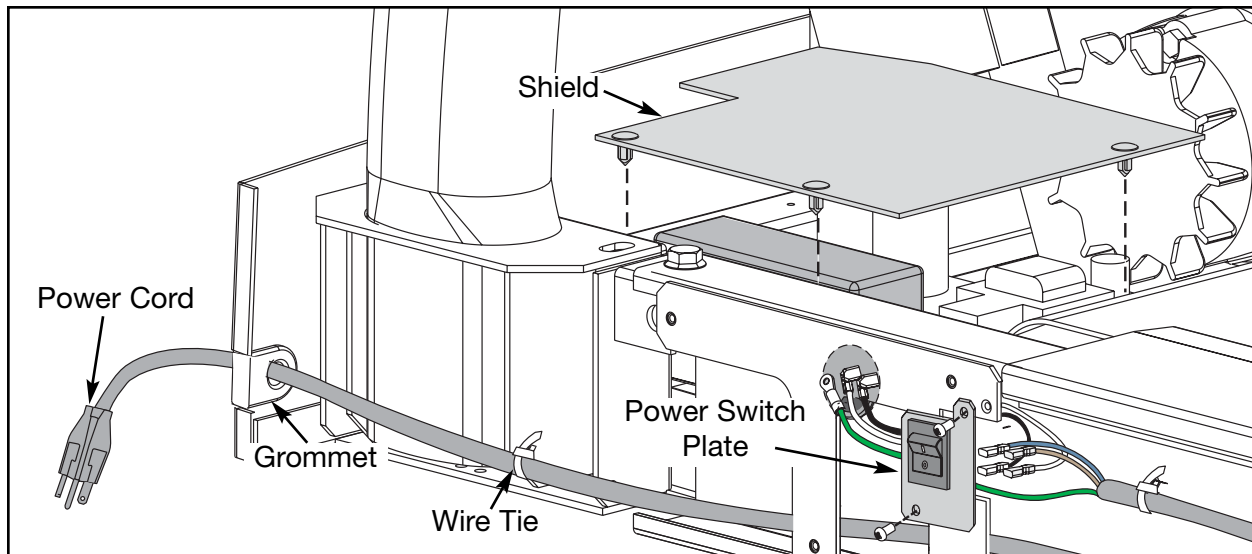

Figure 22
- A. Remove the old power cord and discard the power cord (and power switch if applicable). See Figure 22.